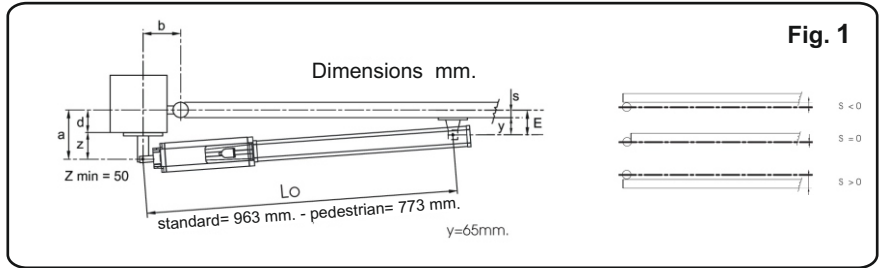

Fig. 1
A) Attach the rear mounting on the pillar and follow the signs of Tables A and B, modify, if necessary, the length of the attack (fig. 1).